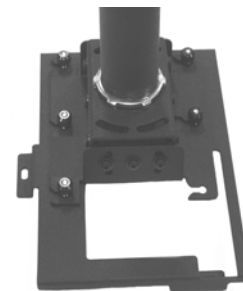

Figure 4. RPA on Mount
2. Using five studs on mount and five thumb screws, secure the RPA to the mount (see Figure 4).